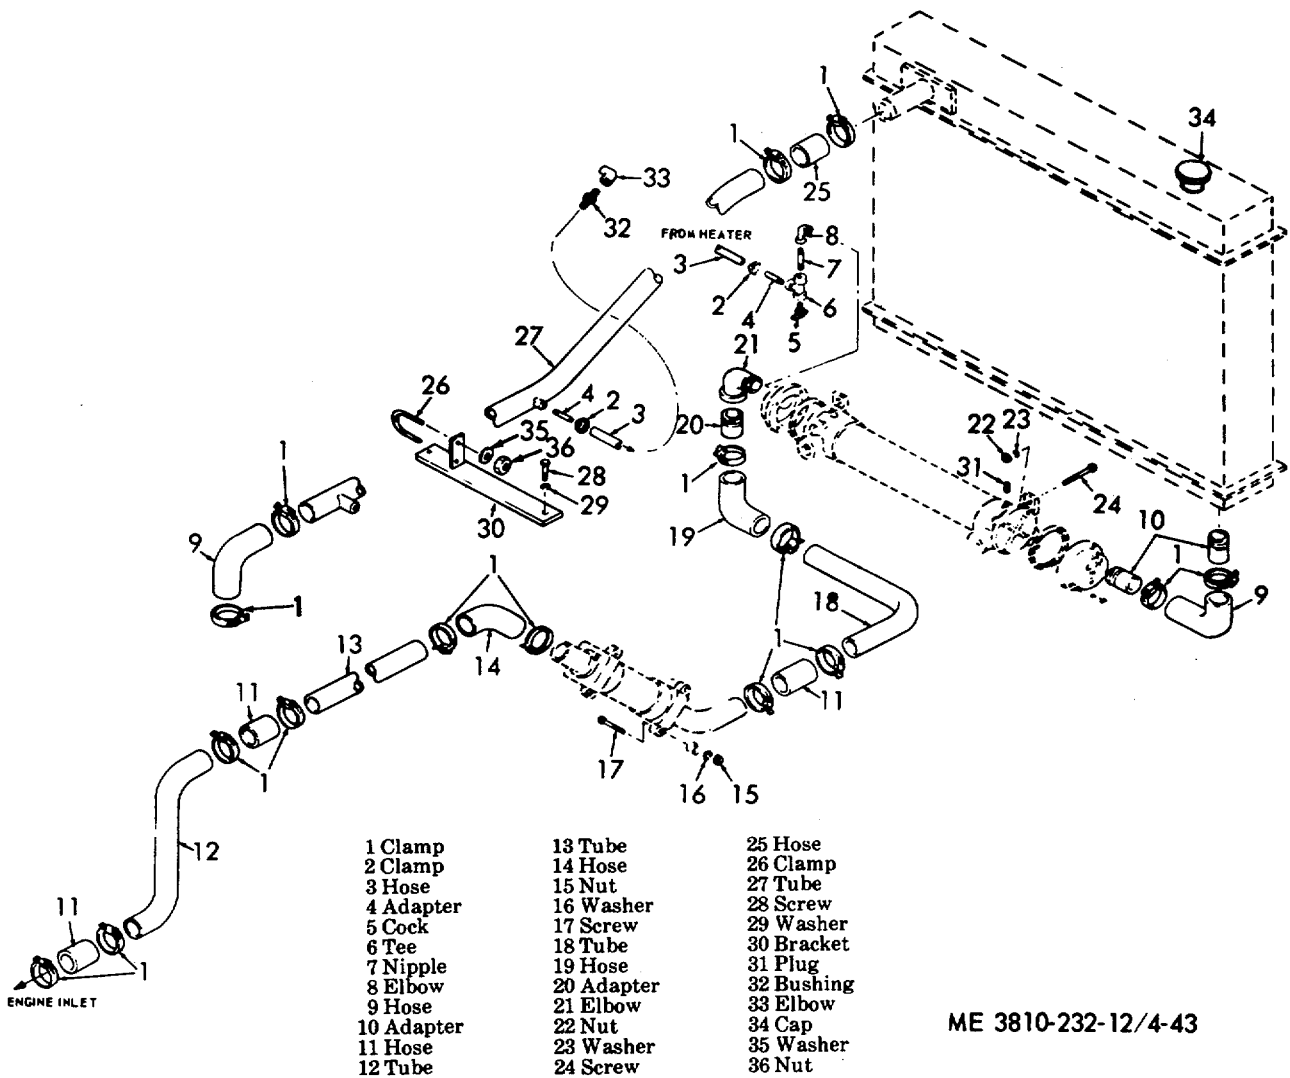

Figure 4-43. Carrier engine coolant lines, and fittings, removal and installation (Model 2385).
(1) Remove all deck plates.
(2) Drain the cooling system (para 3-20).
(3) Remove the coolant system lines and fittings as illustrated in figure 4-43.
(1) Clean all parts and dry thoroughly.
(2) Inspect all parts for defects. Replace defective parts.
c. *Installation.* Install coolant lines and fittings as illustrated in figure 4-43.